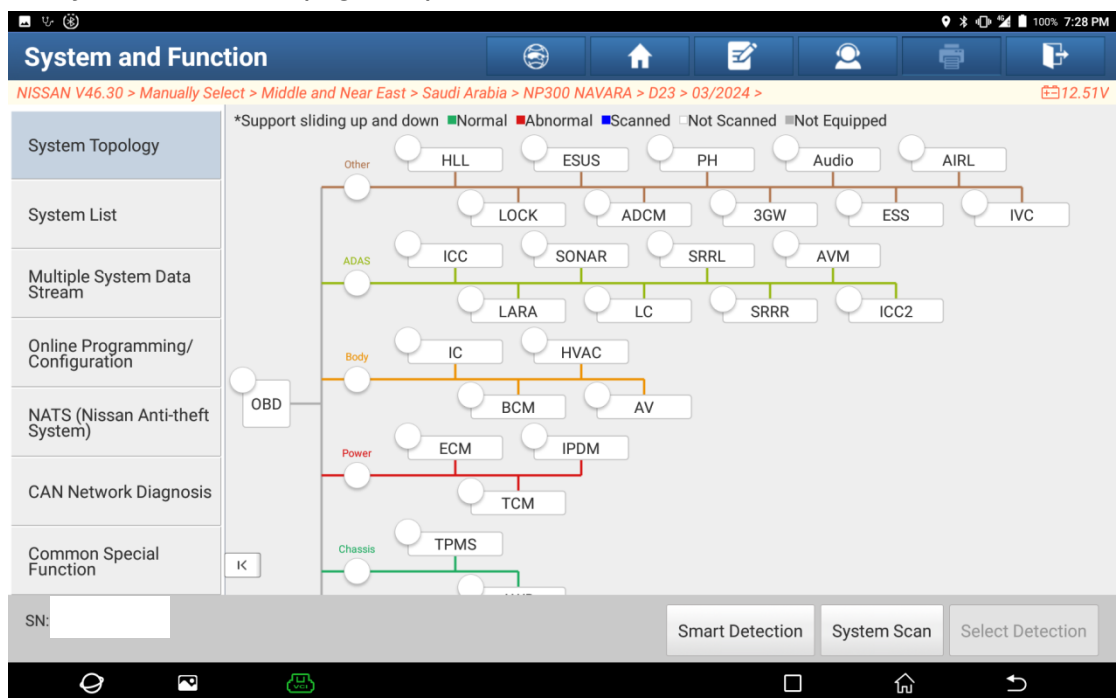

Figure 5
- Click [Manually Select], and choose [Middle and Near East] > [Saudi Arabia] > [NP300 NAVARA] > [D23] > [03/2024] to enter the vehicle model system interface (Figure 5).